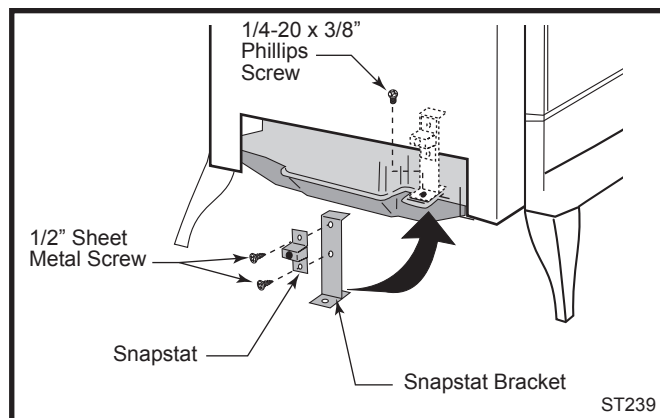

Fig. 13 Snapstat assembly and installation.
2. Attach the snapstat assembly to the snapstat bracket with two (2) sheet metal screws. (Fig. 13) Remove the 1/4-20 x 3/8" hex head bolt installed in the hole in the right rear ledge of the firebox. Use that bolt to secure the snapstat bracket to the firebox. The mounting hole is slotted to allow you to adjust the bracket so the snapstat bracket head makes contact with the firebox. (Fig. 13)